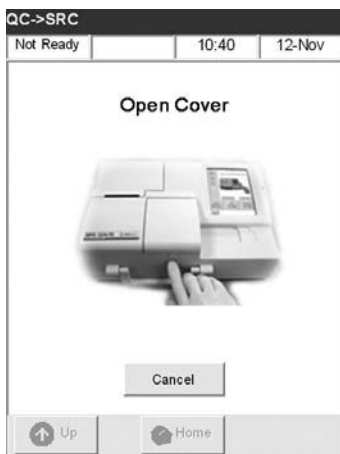

Fig. 4-3 Open Cover
4. Open the sample chamber cover by pressing the button (Fig. 4-3).